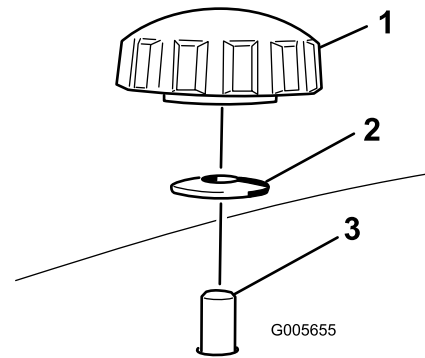
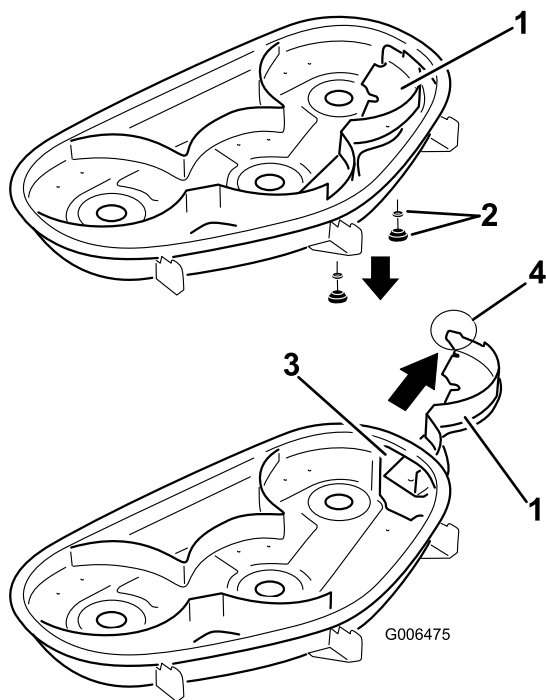

Figure 31
Figure 32
4. Remove the 2 knobs and curved washers that secure the right baffle to the mower as shown in Figure 31.
5. Remove the right baffle and lower the grass deflector over the discharge opening as shown in Figure 32 and Figure 31.
4. Slide the right baffle into the mower deck and secure it using 2 knobs and curved washers (cupped side facing the mower) as shown in Figure 31 and Figure 32.